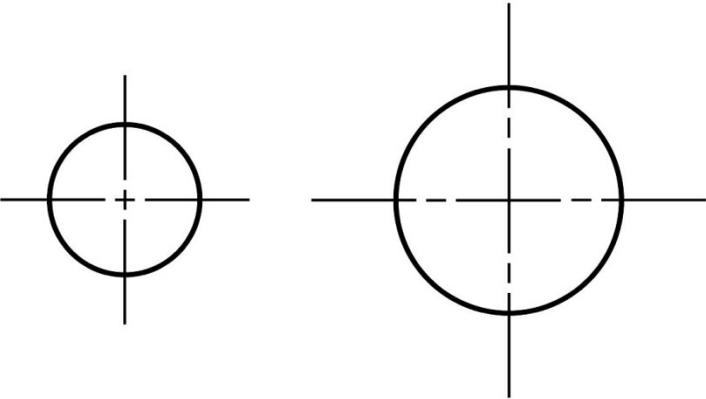

Figure 1-9: Crossing center lines.
- Rule 2. Center lines should intersect by crossing either the long dashes or the short dashes (see Figure 1-9).